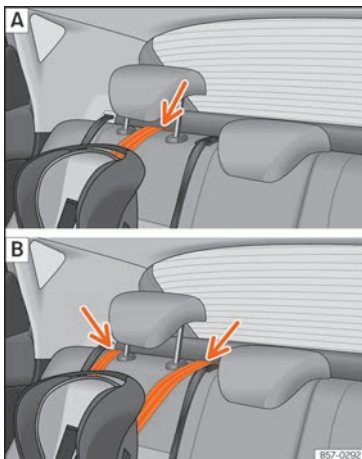

Fig. 38 Retainer strap: adjustment and assembly according to the Top Tether belt.
- Place the belt under the head restraint of the back seat »» **Fig. 38** (depending on the instructions of the chair itself, lift or remove the head restraint if necessary).